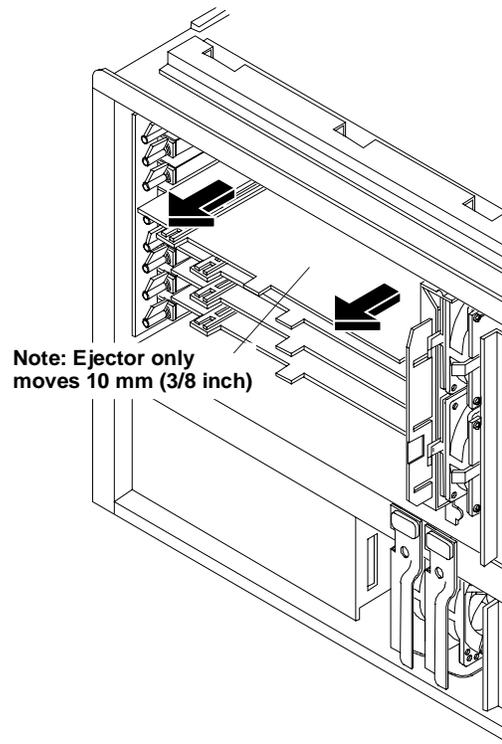

Figure 6-6. Removing a Hot Plug Board
3. Pull the gray plastic slot ejector (see Figure 6-6) out until you feel resistance (about three-eighths of an inch, or 10mm).